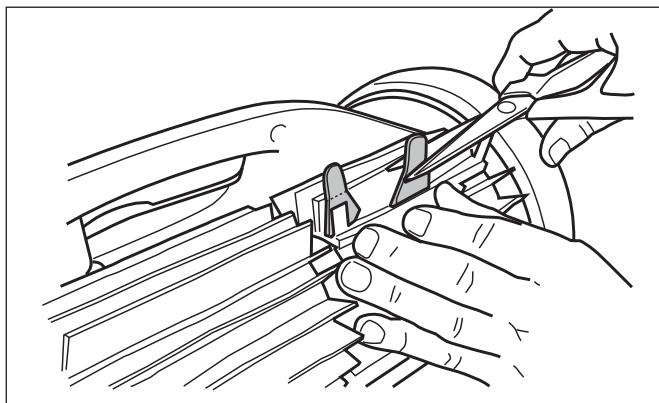

Figure 32. Cut Tabs
5. Use a pair of scissors to cut the tabs 3/4 inch from the heel so that they are no higher than the cleaning blade (Figure 32).